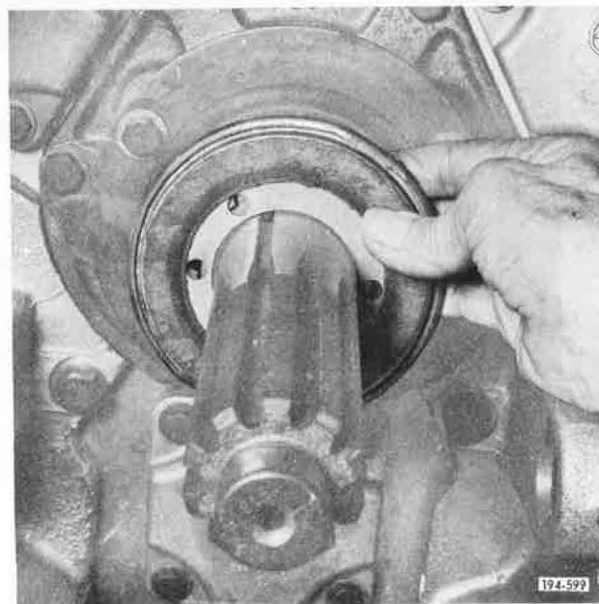

Figure 5-546. Installing Clutch Brake
20. Install clutch brake onto input shaft. See Figure 5-546.